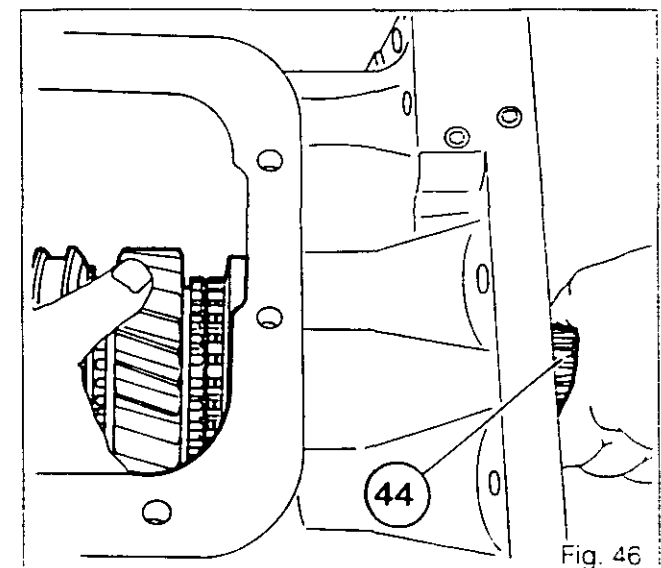

Fig. 46
**Note: If the bush (35) is worn, replace the gear assembly (because the bush is bored out after it has been fitted).**
**If the combined bearings (30) and (28) are worn, replace the gear assembly (it is factory fitted).**
158. Engage the input shaft (44) retaining the gear train assembly (Fig.46) .